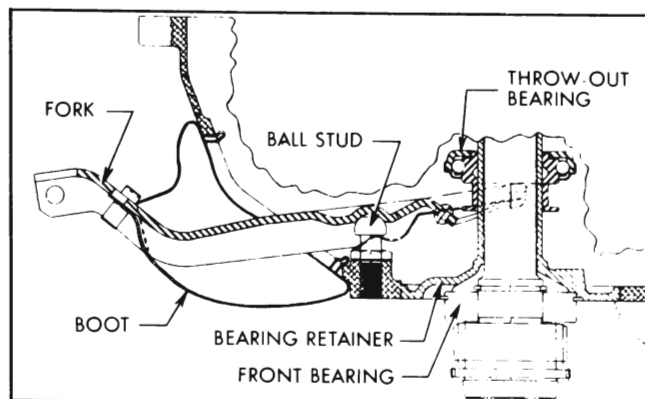

Figure 4-6—Clutch Release Fork and Boot
3. Disconnect release rod from release fork by removing clevis pin. Unhook fork boot from opening in flywheel housing. See Figure 4-6.